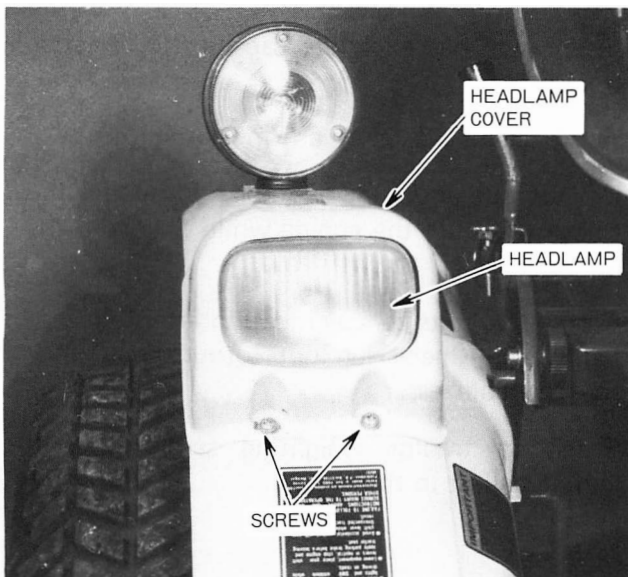

Figure 53 — Headlamp Removal
1. Remove four screws securing the headlamp cover to fender, Figure 53.